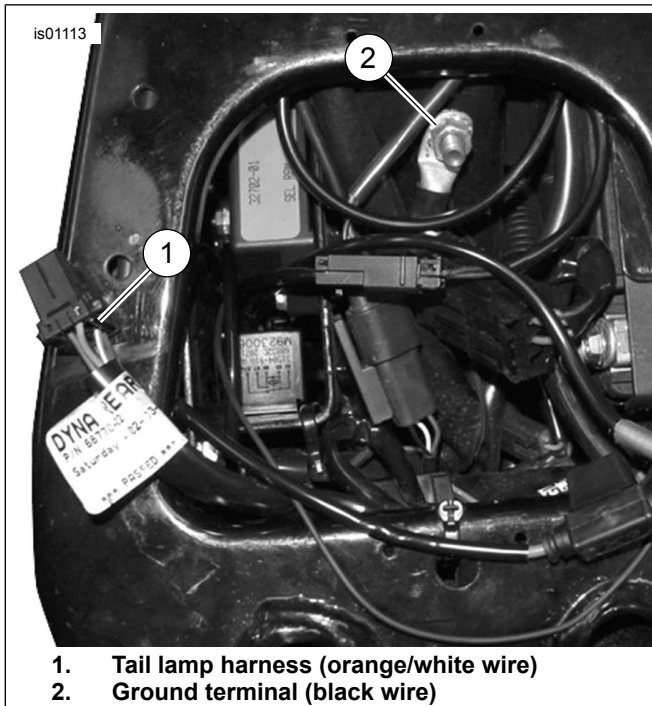

Figure 1. Power and Ground Connections (Dyna Models)
3. See Figure 1. Cut the black wire on the Zumo wire harness to easily reach the ground location, and crimp the ring terminal to the end of the wire per the Packard crimping tool instructions in the service manual appendix.
2. See Figure 1. Carefully slice open an area of the main harness wrap inside the side cover at an accessible point, and cut an orange/white main harness power lead.